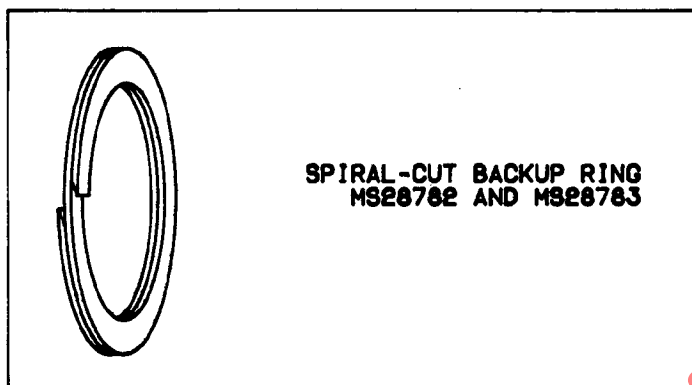

FIGURE 7
- 6.1 Spiral Backup Rings MS28782 and MS28783: Spiral-cut backup rings (Figure 7) provide excellent extrusion protection for many O-ring applications. They are recommended for Type I (-65°F to +160°F) Class 1 (1500 psi) and Class 2 (3000 psi) hydraulic systems per MIL-H-5440, but are not recommended for Type II (-65°F to +275°F) Class 1 and 2 hydraulic systems or for use with universal fittings (MS21344 or MS33566).